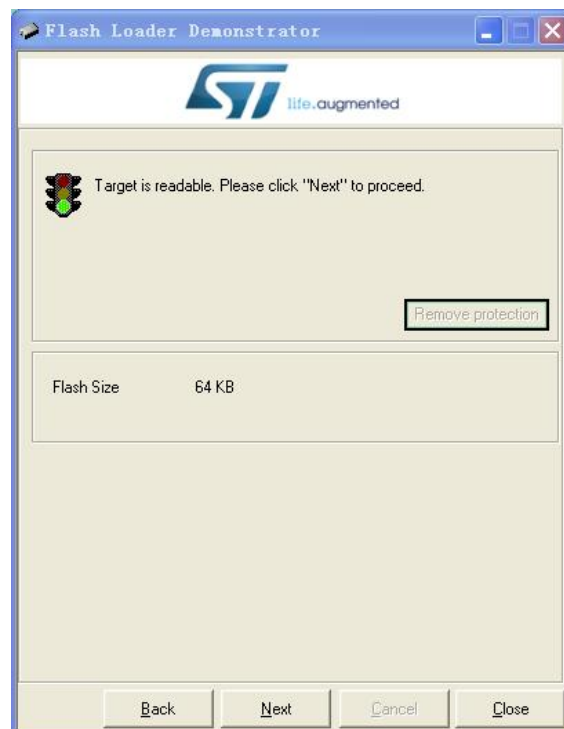
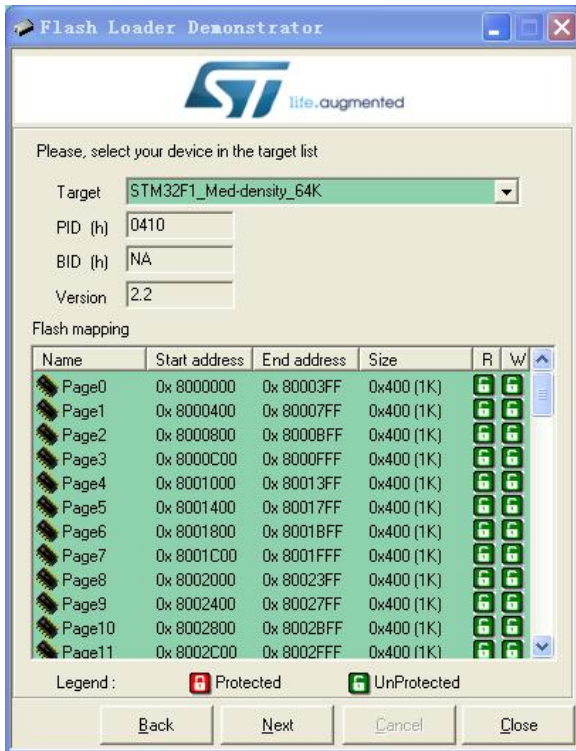

Fig. 6
Fig. 7
- 4) If there is no error you should see Fig. 6. This is a temporary state showing that the PC has successfully detected bootloader and whether its flash memory is readable. If you have problem to reach this state you can try resetting the MCU by switching off the DSO and switching on again. If that still doesn't work check connections and JP1/JP2. Otherwise, click on Next to proceed to the next step as shown in Fig. 7.
- 5) Fig. 7 shows information about the MCU type and its flash memory. You just need to make sure the selection at Target dropdown is the same as shown in Fig. 7. Then click Next to proceed to next step.